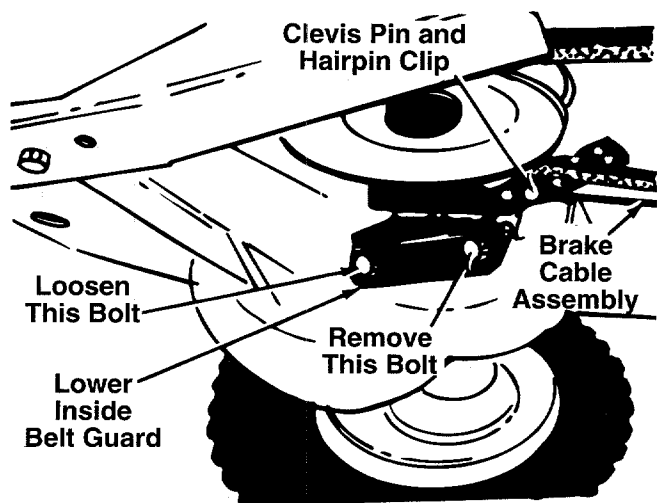

FIGURE 26.
6. Disconnect the brake cable from the lower inside belt guard by removing the hairpin cotter, clevis pin and flat washer. See figure 26.
7. Remove the front hex bolt from the lower inside belt guard as shown in figure 26.
8. Loosen the second bolt (Do Not remove), then pivot the guard downward, and slip the deck belt off the engine pulley. See figures 26 and 27.